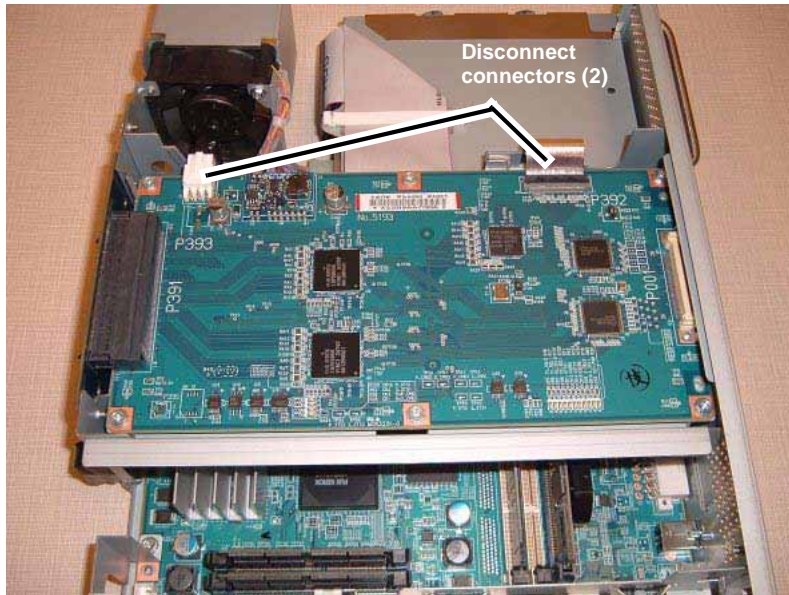

Figure 1 Disconnecting connectors
2. Disconnect connectors (Figure 1).